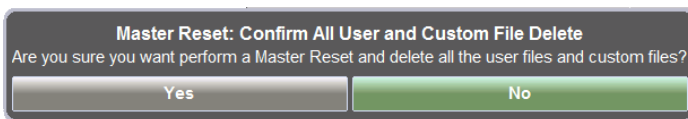

Figure 1-2. Master Reset Confirmation
3. To erase all user files in internal memory, press the **Master Reset** button. A dialog box is displayed on the screen warning that all settings will be returned to factory default values and all user files will be deleted (Figure 1-2).